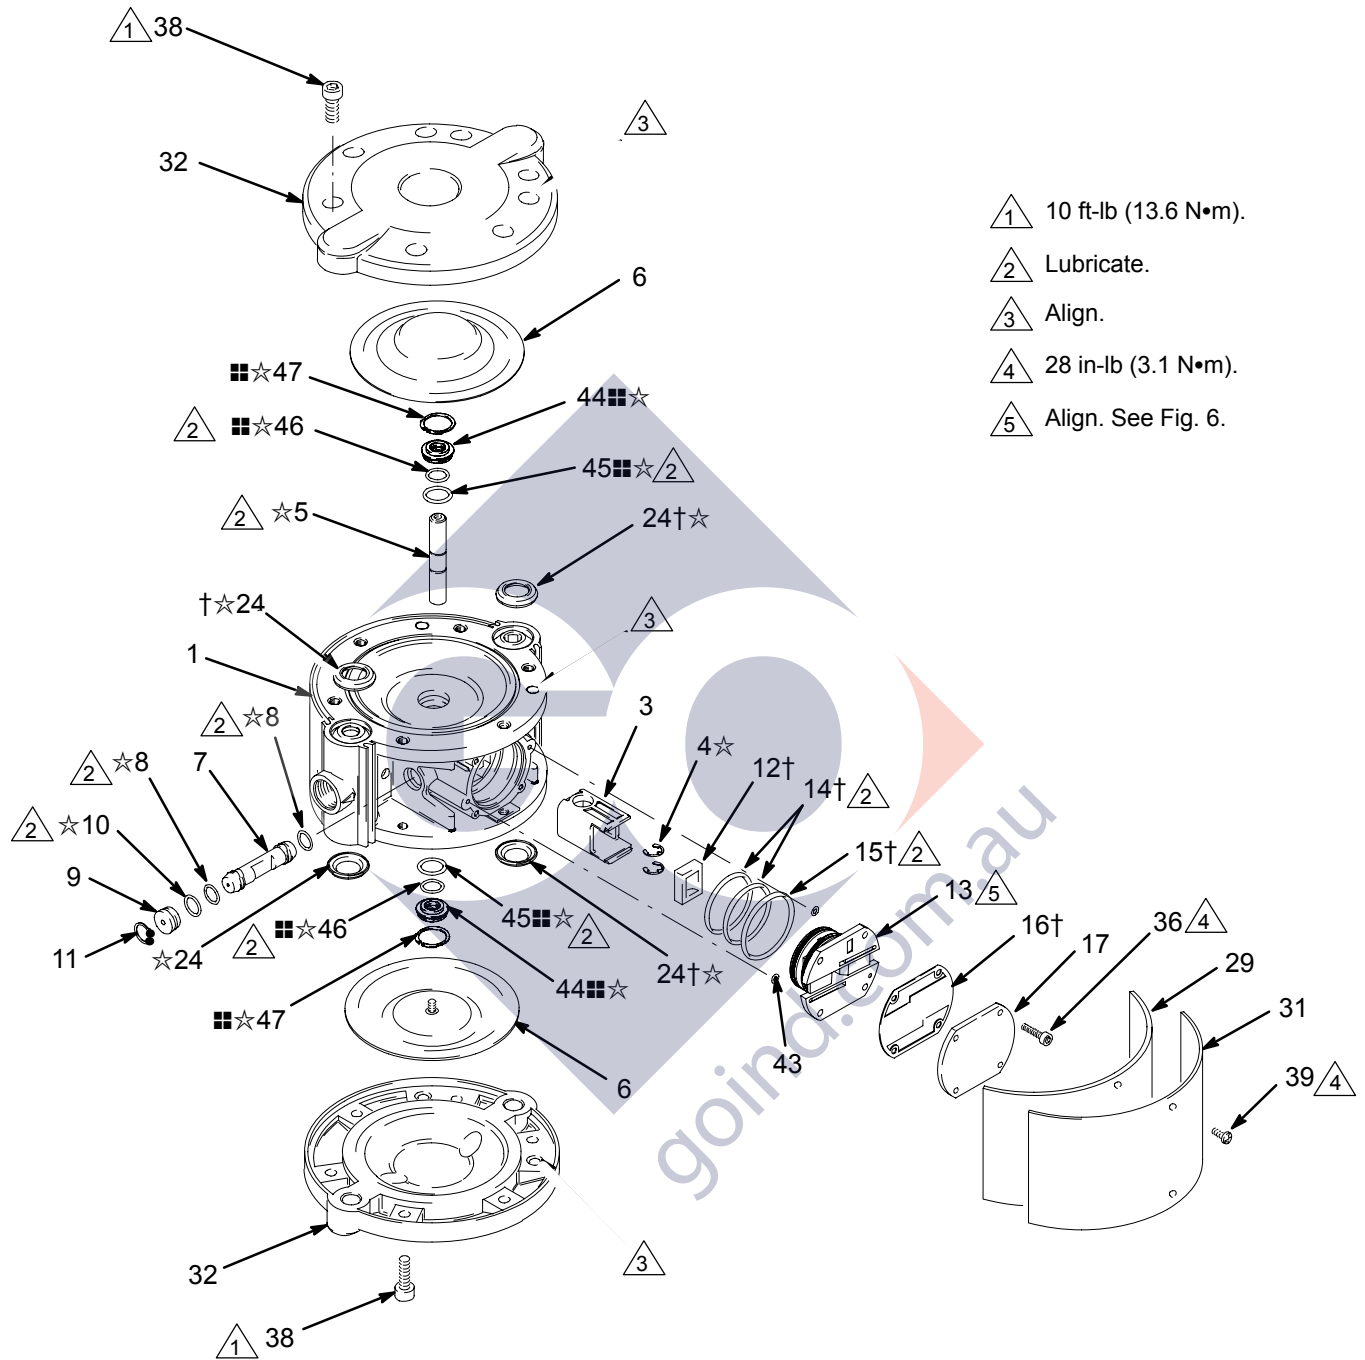

Fig. 8
1. Remove the fluid covers. See page 14. Remove the side cover (31) and felt dampener (29).
3. Remove the diaphragms (6). See page 17.
4. Remove the retaining rings (4☆) from the shaft (5). See Fig. 8.
5. Slide the shaft (5) out of the center housing (1). Remove the valve carriage (3) from the housing.
6. Remove the retaining rings (47) and bearings (44). Remove the o-rings (45, 46) from the bearings.